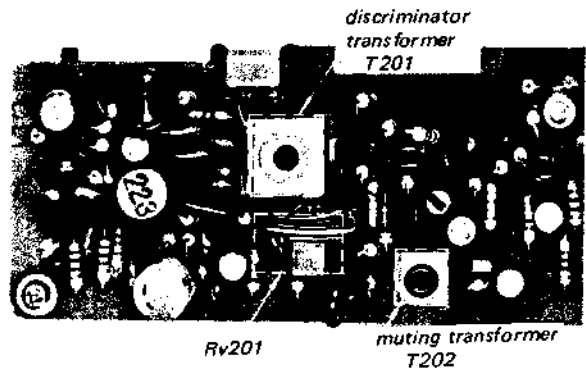

Fig. 3-4 Parts location
3. Turn the top core (secondary side) of discriminator transformer T201 (see Fig. 3-4.) with a hex-head alignment tool to obtain a null-point reading on the tuning meter.
2. Turn the knob of Rv201 (see Fig. 3-4) fully clockwise on the fm i-f and discriminator board.